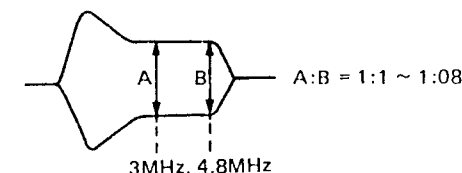

Figure 51.
- ② Adjust R3307 (channel-1, damping control) to make the output wave shape flat from 3 MHz to 4.8 MHz as shown in figure 51.
- ② Adjust R317 (channel-1 damping control) to make the output wave shape flat from 3 MHz to 4.8 MHz as shown in figure 51.
- ① Make adjustment by using R315 (channel-2 damping control) and C317 (channel-2 peaking control) in the same manner as channel-1.
- ② Compare the output wave shape with the channel-1 head output wave shape, and if it is different, readjust the output to have the same wave shape as that of the channel-1 head output.